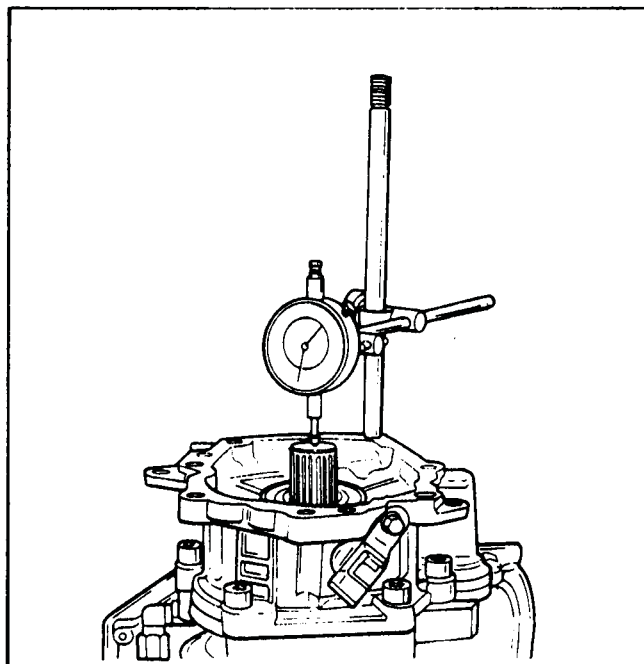

Figure 123
9. Install dial indicator on output shaft, as shown in Figure 123, and set the indicator to zero.